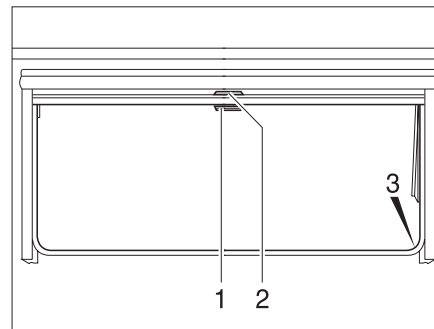

Fig. 49 Hinged window
- Pull blind at the handle (Fig. 49,2) downwards. If the blind is to be completely closed, it is suspended into the locking devices (Fig. 49,3) situated on both sides of the window frame.
- Press the handle (Fig. 49,2) downwards and, at the same time, tilt it slightly inward. The blind can be taken out of the locking devices situated on both sides of the window frame.
- Pull the handle (Fig. 49,2) slightly downwards until the locking device releases.
- Pull the roller insect screen at the handle (Fig. 49,1) downwards and hang it into the locking devices (Fig. 49,3) situated on both sides of the window frame.
- Press the handle (Fig. 49,1) downwards and, at the same time, tilt it slightly inward. The roller insect screen can be taken out of the locking devices situated on both sides of the window frame.